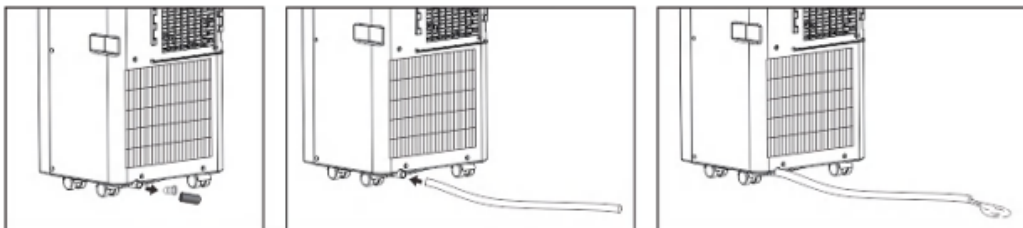

Fig.2
- 2) As shown in Fig.2 and Fig.2a, install the exhaust hose, and adjust the window position well.